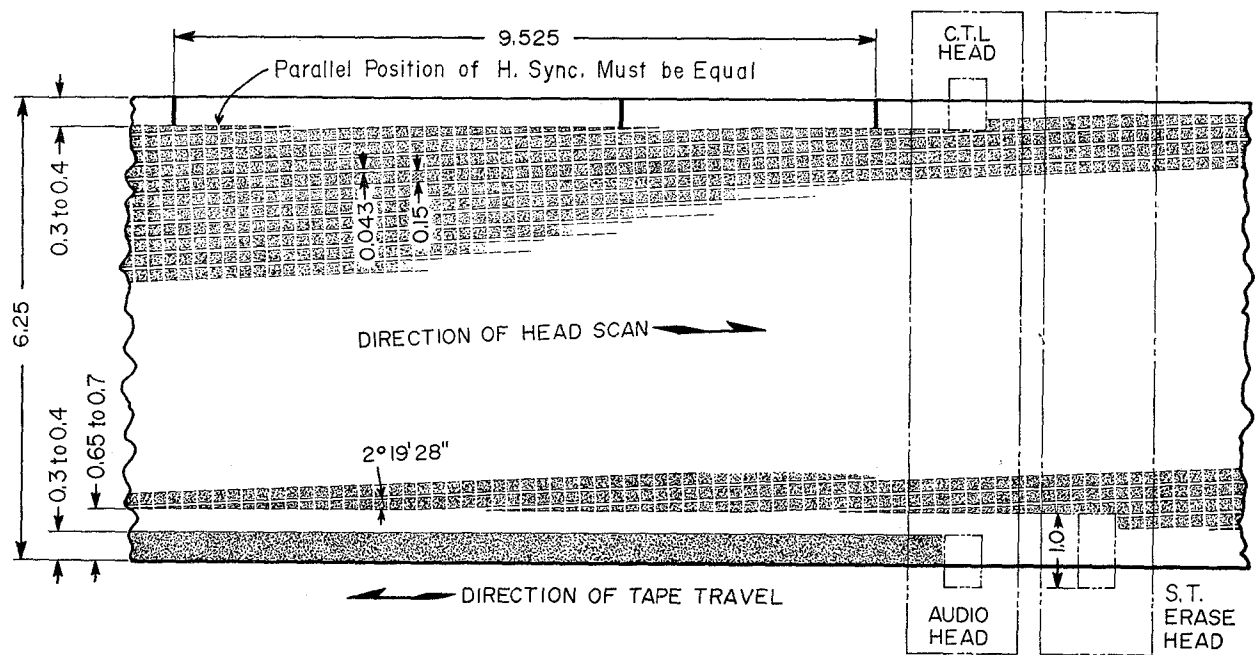

Fig. 1-26 Recorded Pattern of Video Tape (Viewed From center of Head Drum)
- Adjust height of side track erase head as well as height of control and audio heads to positions as shown in fig. 1-26.